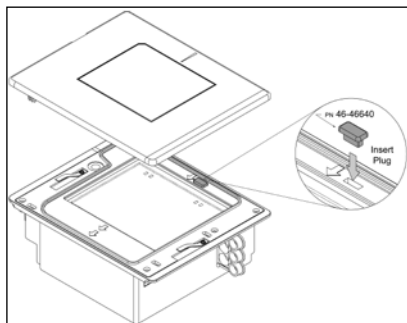

Figure 17: POS Plug Installation
- Insert the POS plug (PN 46-46640) into the slot indicated in Figure 17.